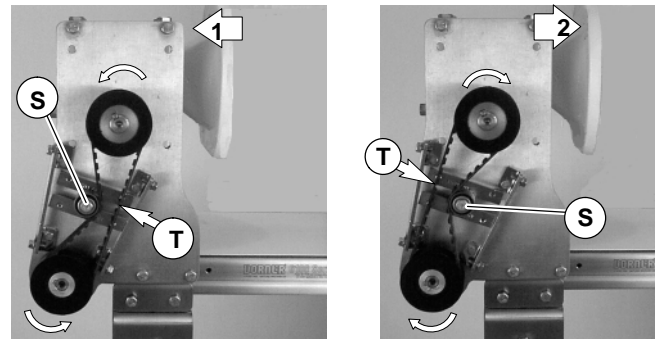

Figure 8
7. Depending on conveyor belt travel (1 or 2 of Figure 8), locate timing belt tensioner (S), as shown. Tension timing belt to obtain 1/8" (3 mm) deflection